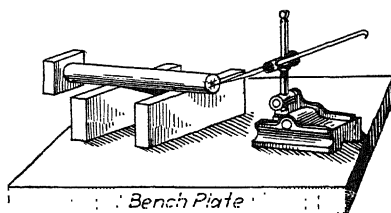

FIG. 75.—Surface-gauge method of locating centers.
*Surface-gauge Method* (Fig. 75). When it is required to locate the center in an irregular-